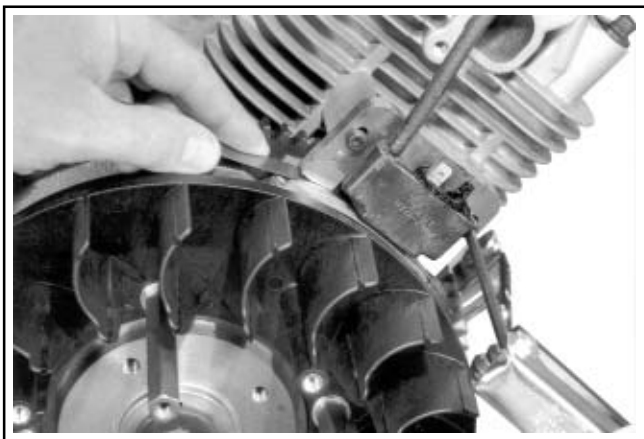

Figure 11-46. Setting Ignition Module Air Gap.
2. On engines equipped with SMART-SPARK™, both modules are installed the same way – with the two tabs out. See Figure 11-46.
5. Insert a **0.30 mm (0.012 in.)** flat feeler gauge between the magnet and the ignition module (see Figure 11-46). Loosen the screws enough to allow the magnet to pull the module against the feeler gauge.